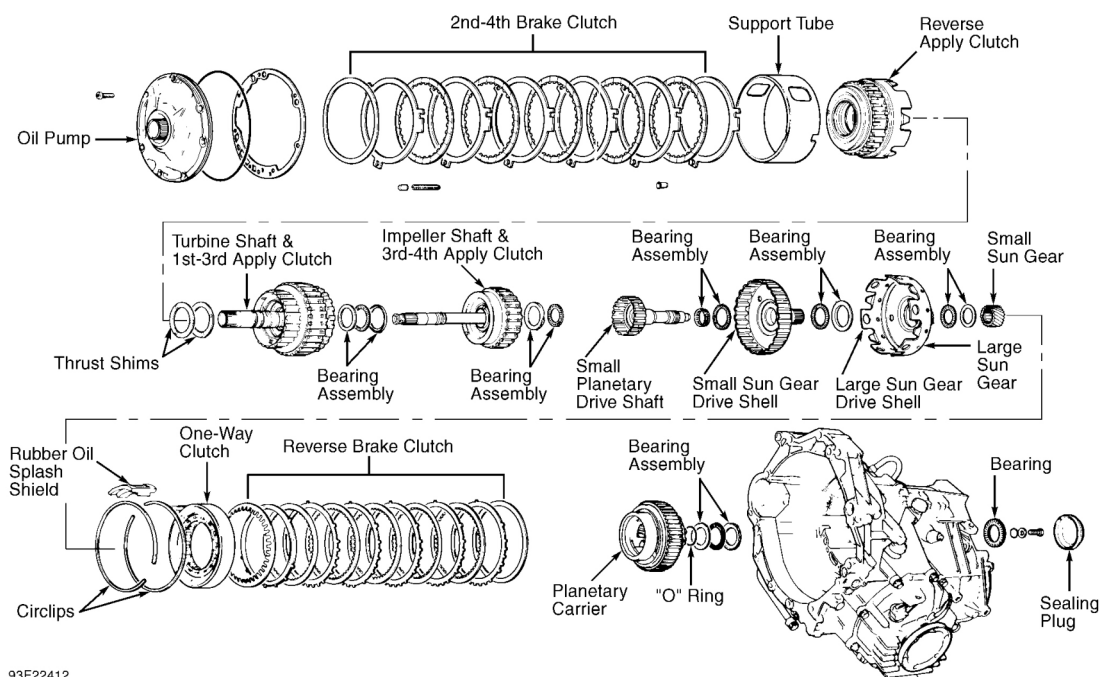

Fig. 19: Exploded View Of A/T Components (097 Shown; 098 Is Similar)
3. Remove turbine shaft complete with 2nd-4th brake clutch, support tube, 1st-3rd and reverse apply clutch assemblies. Remove impeller shaft and 3rd-4th apply clutch assembly. See **Fig. 19**.